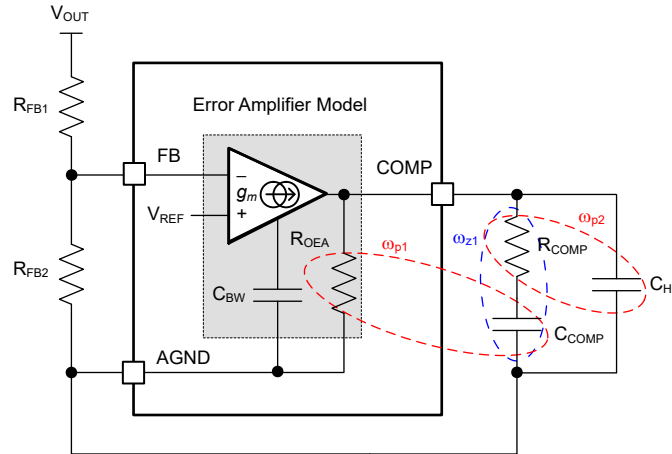

Figure 8-3. Error Amplifier and Compensation Network
A Type-II compensator using a transconductance error amplifier (EA) is shown in Figure 8-3. The dominant pole of the EA open-loop gain is set by the EA output resistance, R_{OEA} , and effective bandwidth-limiting capacitance, C_{BW} as shown by Equation 18.
The EA compensation components create a pole close to the origin, a zero, and a high-frequency pole. Typically, $R_{COMP} \ll R_{O-EA}$ and $C_{COMP} \gg C_{BW}$ and C_{HF} , so the approximations are valid. Figure 8-3 circles the poles in red and the zero in blue.